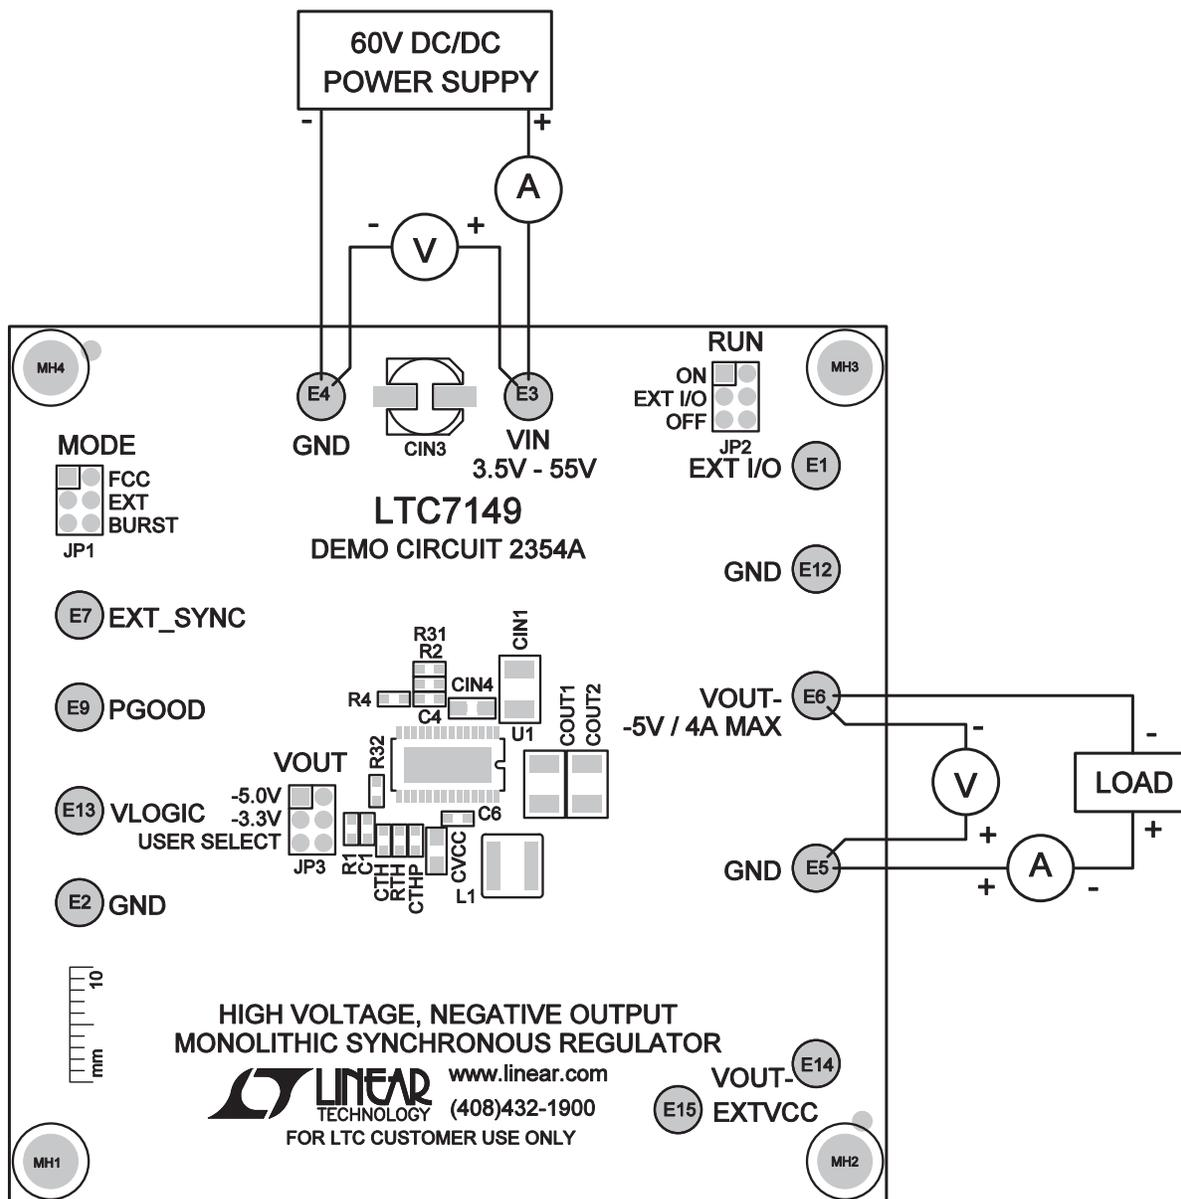

Figure 1. Proper Measurement Equipment Setup
Demonstration circuit 2354A is easy to set up to evaluate the performance of the LTC7149. For proper measurement equipment configuration, set up the circuit according to the diagram in Figure 1. Before proceeding to test, insert shunt into JP2 (RUN) into OFF position, which connects the RUN pin to ground (GND), and thus, shutdown the output. Set jumper JP1 (MODE) into FCC (Forced Countries Conduction Mode) position. Set jumper JP3 ( $V_{OUT^-}$ ) into  $-5.0V$  position.
1. With the DC2354A set up according to the proper measurement and equipment in Figure 1, apply 16V at  $V_{IN}$ . Measure  $V_{OUT^-}$ ; it should read 0V. If desired, one can measure the shutdown supply current at this point. The supply current will be approximately 14 $\mu$ A, or less, in shutdown.